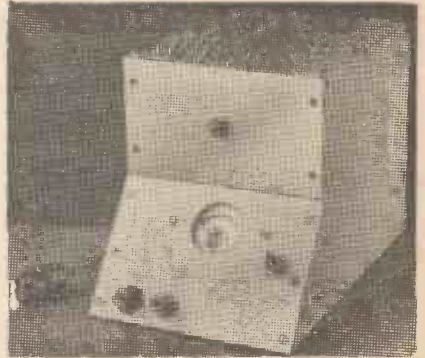
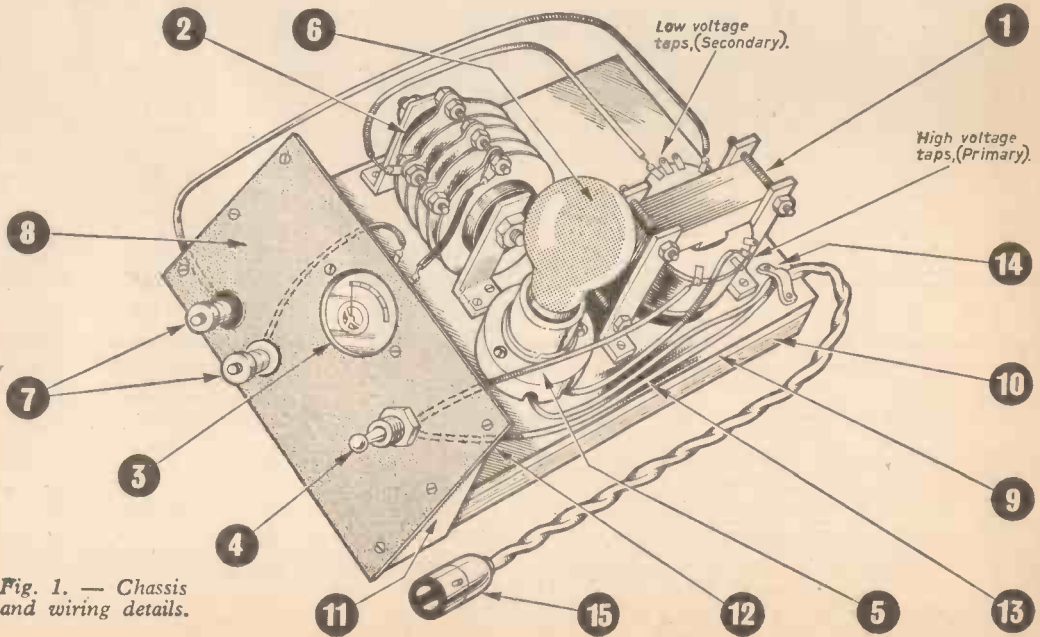

Fig. 2.—The completed plant ready for use.
Fig. 1. — Chassis and wiring details.
As can be seen in Fig. 2, the finished instrument, with its sloping panel has a neat appearance. The panel and baseboard with all the components thereon forms the nucleus of the charger, whilst the protective cover is made to fit and is screwed to this baseboard. The panel and detachable cover was almost entirely constructed of standard sheet Formica. This material is an excellent insulator and is dampproof too. Fig. 1 shows the chassis and the wiring to the components. For simplicity of illustration this wiring has in some instances been shown extending beyond the chassis. The wiring will of course be much shorter and direct in
Only stout gauge secondary winding is used for this (see (1) in Fig. 1) and according to the components used this may be in the region of 3.5V, 9V, or 17V. There is always a drop in voltage when a rectifier is in series and this should be allowed for when purchasing the transformer for any particular voltage output. If an existing transformer has also a high tension secondary, this must not of course be used and must be carefully taped up with insulating tape to avoid accidents. Transformers are always clearly marked by the manufacturers on terminals, or against the tags, usually in voltages. The one shown in Fig. 1 is hardly likely to tally with its connections, so should not be taken as correct for all transformers. Great care
This is shown in (2) in Fig. 1 and it is this of course which changes or converts the low voltage A.C. in the secondary to direct current. The model shown in Fig. 1 is an old one connected to give simple half wave rectification. The ammeter is shown at (3), this indicates the rate of charge. Models vary so the diameter and fixing arrangements will determine the panel and fixing holes.
A mains type toggle on/off switch is shown at (4) in Fig. 1, it has to carry the full 250V main current, so a light type must not be used. Part (5) in Fig. 1 is a battery type electric lamp holder and (6) shows the 250W photoflood lamp, As has been explained this acts as a safety series resistance, but only glows slightly. Part (7) shows the terminals. These should be clearly marked with coloured discs showing correct positive and negative terminals;